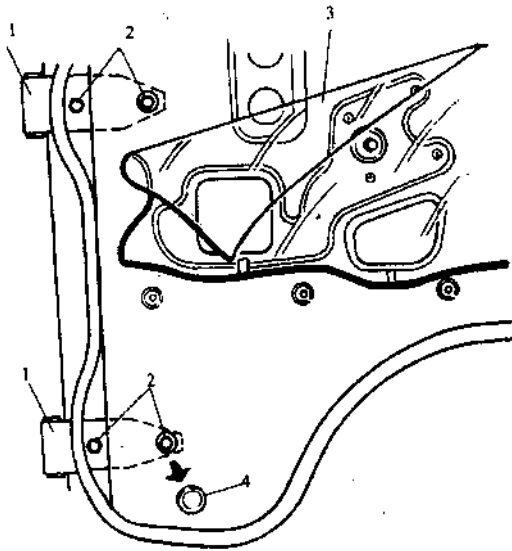
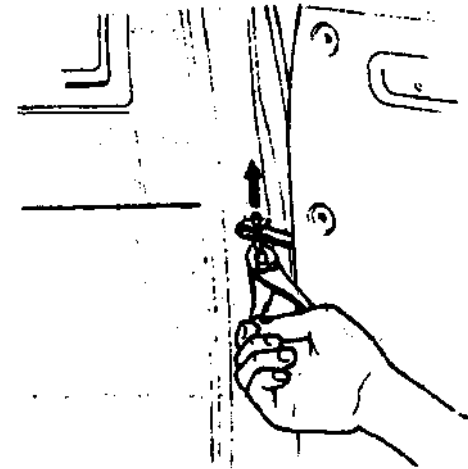
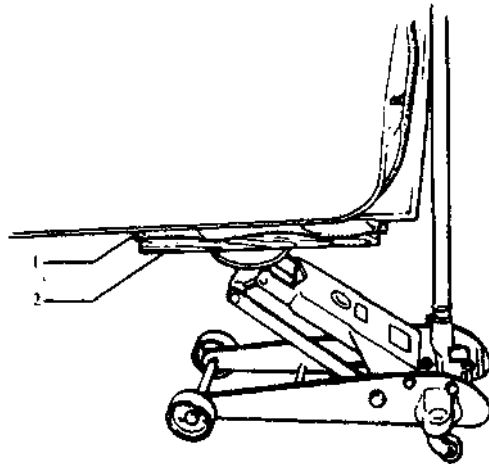

Fig. 4.1-24
Fig. 4.1-25
Fig. 4.1-26
- 1) Front door inner handle box. 2) Front door inner handhold. 3) Front door glass regulator rocking handle. 4) Front door trim board. 5) Strip the seal membrane from front door hinge bolt hole. 6) Dismount front door hinge round plug, see Fig. 4.1-24. 7) Dismount the latch of front door stop assembly through beating it with hammer, see Fig. 4.1-25. 8) Use jack, pillow a piece of wood block between the jack and door inner board to support the front door, see Fig. 4.1-26. 9) Dismount hinge bolt to dismount front door assembly.